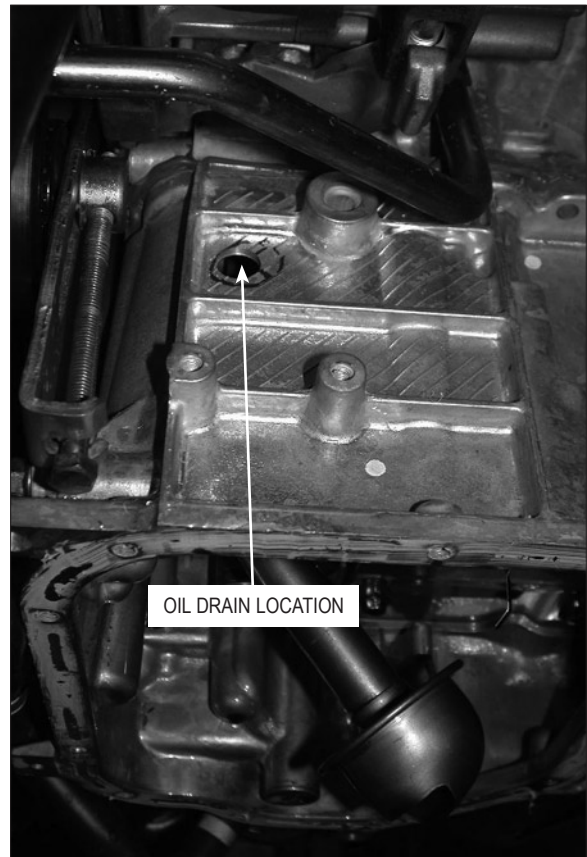

Fig. 2-a
- C. To provide an oil drain for the supercharger, it is necessary to make a hole in the driver's side of the aluminum upper oil pan. Find the proper location and center-punch the hole. (See Fig. 2-a.)